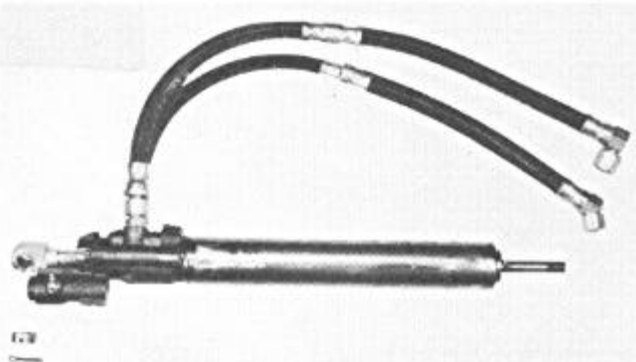

FIGURE 10
7. Disconnect hoses at oil pump and lift valve and power cylinder assembly up through engine compartment, Figure 10.